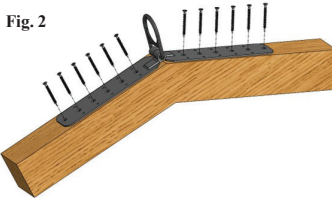

Fig. 2
- **Screw fastening:** This anchor can be fitted with 12 high-strength 5.4 x 60 mm wood screws (included). This means that the anchor point complies with EN 795:2012 type A (fig. 2).